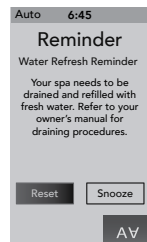

Figure 15.0f
21. **Water Refresh Reminder:** This message will appear when the “Water Refresh” timer has expired (Figure 15.0f). The water needs to be drained and refilled with fresh water.